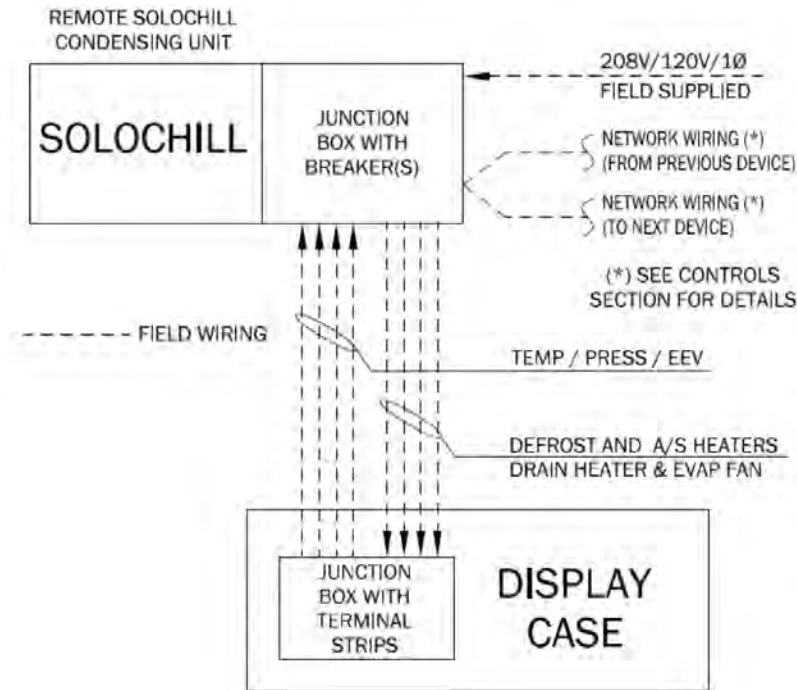

Fig. 12 Display Case with Remote SoloChill General Wiring.
- iv. See Figures 12 and 13 on the next page for the general wiring diagrams, and see Appendix B for the more detailed wiring information (Fig. B-1 for larger units and Fig. B-2 for smaller units).